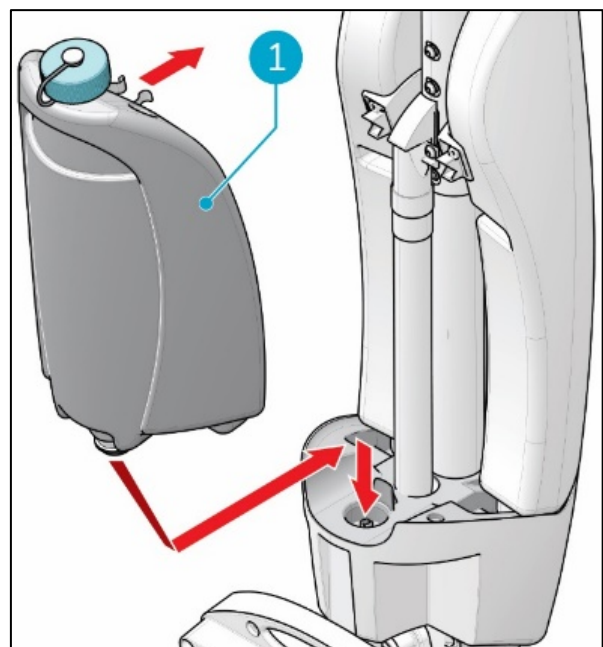

Figure 14
5. Put the tank on the i-mop XXL pro with the valve first (Figure 14, pos 1).